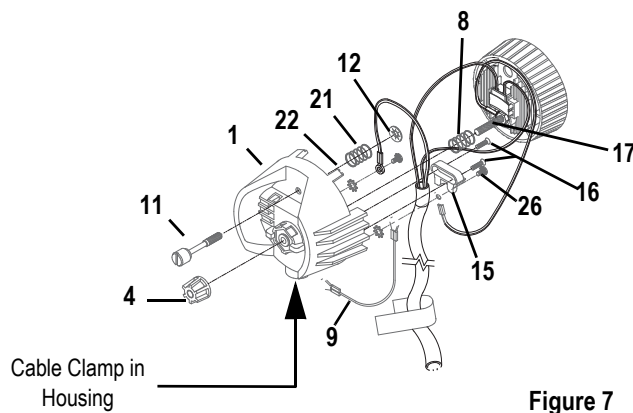

Figure 7
Step 19: Insert the knurled head screw (11) through the housing socket casting (1) as shown in Figure 7.
Step 20: Install the ground spring (21) onto the screw and secure it with the Southco flat retaining ring (12). Install the Southco ring with its prongs away from the casting.
Step 24: Place the compression spring (8) on the protrusion on the inside of the index hub. See Figure 7.
Step 25: Insert bolt (17) through spring (8) and through the index hub (6) of the housing socket (1), joining the two castings as shown in Figure 7. Make sure wires are not pinched between the two pieces.
Step 27: Press the two castings together firmly so the bottom of the light baffle (2) sits on top of the cable clamp (15), then install Z lamp knob (4). Hand tighten the knob all the way to the right. See Figure 7.